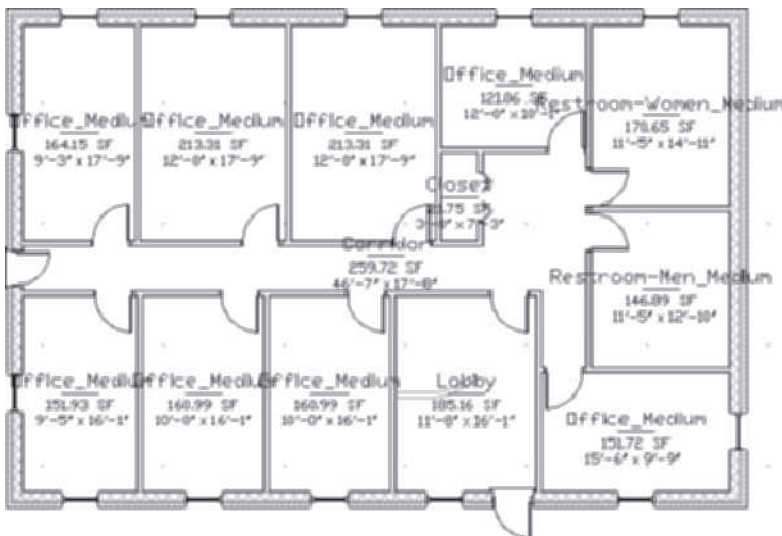

FIGURE 4.8 Display of space objects turned OFF
18. Choose the **Layer List** from the Layer panel of the Home tab. Click the light-bulb of the drop-down list to turn OFF the visibility of **A-Area-Spce-Patt** as shown in Figure 4.8. Save and close the drawing.